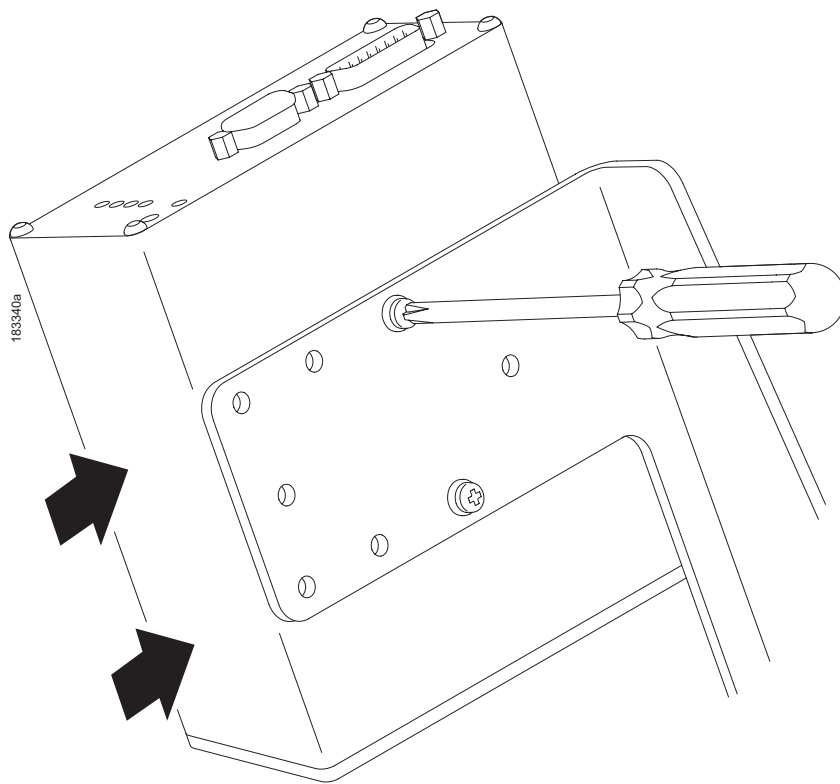

Figure 13. Positioning the Validator on the Bracket
1. Apply even pressure to the side of the validator as you tighten the screws on the bracket as shown in Figure 13.